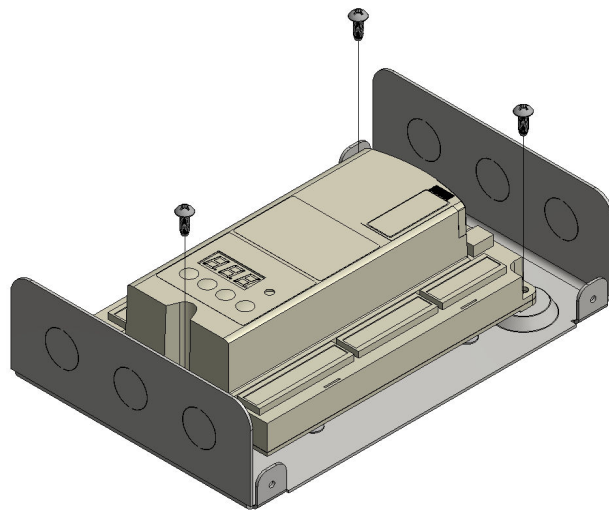

Figure 3: LME7 Installation
2. Place the LME7 on the raised surfaces of the base and align the mounting holes as shown in Figure 3. Using a #2 Phillips screwdriver, fasten the LME7 to the base with (3) #10-16 x 1/2" sheet metal screws.